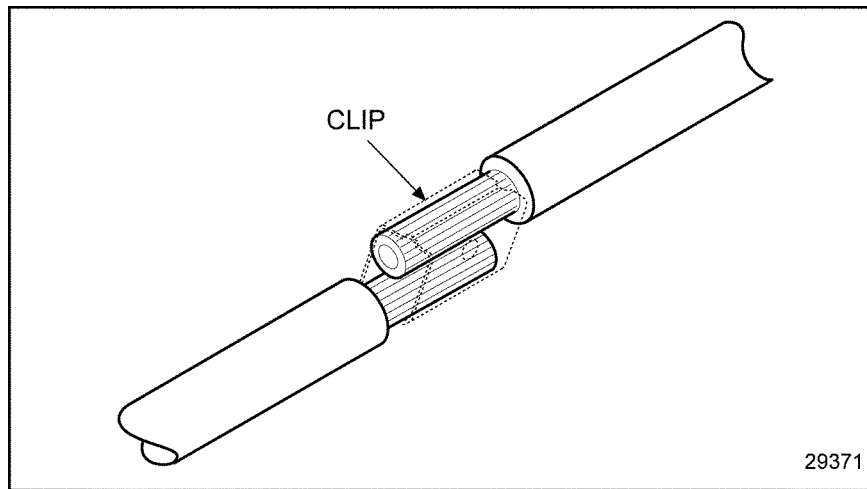

Figure 16-42 Securing the Leads With a Clip
2. Secure the leads with a commercially available clip and hand tool. See Figure 16-42.